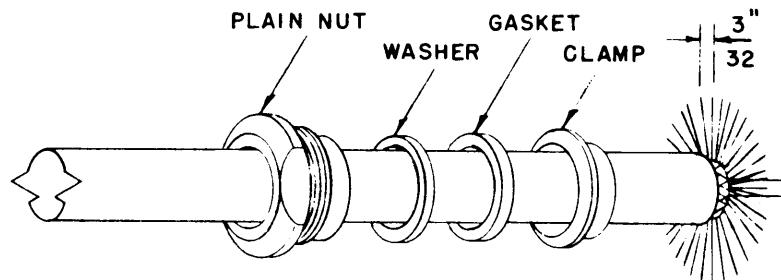

FIGURE 3
3. Slide PLAIN NUT, WASHER, GASKET and BRAID CLAMP over cable as shown in Figure 3. (Note that V groove of GASKET must face toward BRAID CLAMP.)
4. Comb out the braid. Bent it back as shown in Figure 3. Strip all but 3/32 inch of inner dielectric. DO NOT SCRATCH OR NICK the inner conductor.